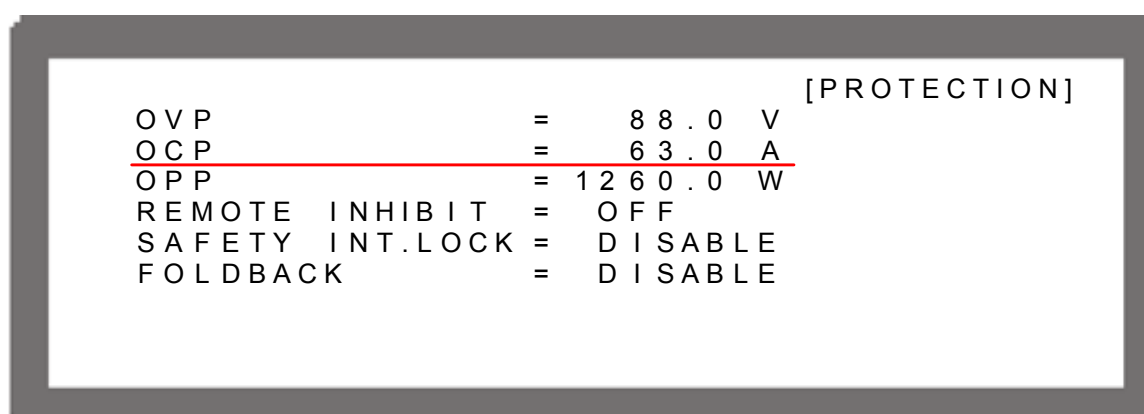

Figure 3-75
1. Use “”, “”, “”, “” keys to move the cursor to the column to be set as Figure 3-75 shows.